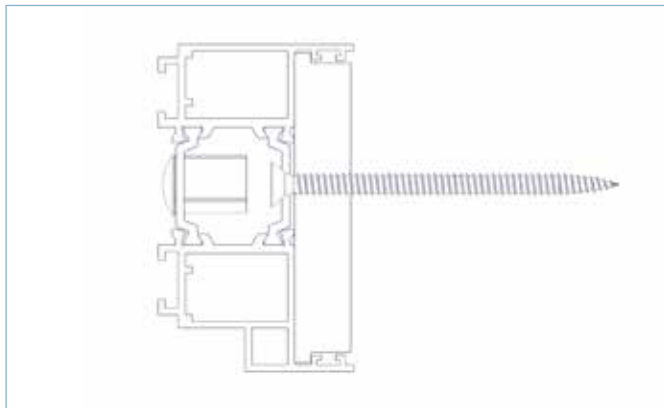

FIG 5B
- ▶ **5.2.** Using a 13mm drill bit, make a hole in the outer layer of polyamide, level with the centre of each jamb packer. This will allow installation of the fixing plug as shown in FIG 5B.